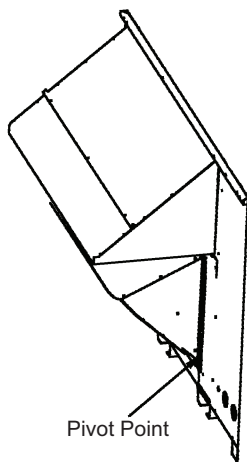

Fig. 10 — Pivot Point on Unit Panel
3. Place the barometric relief assembly into the unit. The accessory should pivot on the unit end panel. See Fig. 10.